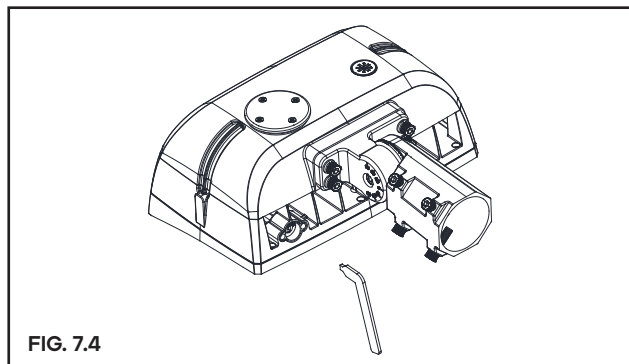

FIG. 7.4
Step 1: Take the lamp out of the packing box, take out the handle configured in the packing box, and insert it into the slot of the knob. (Figure 7.4)